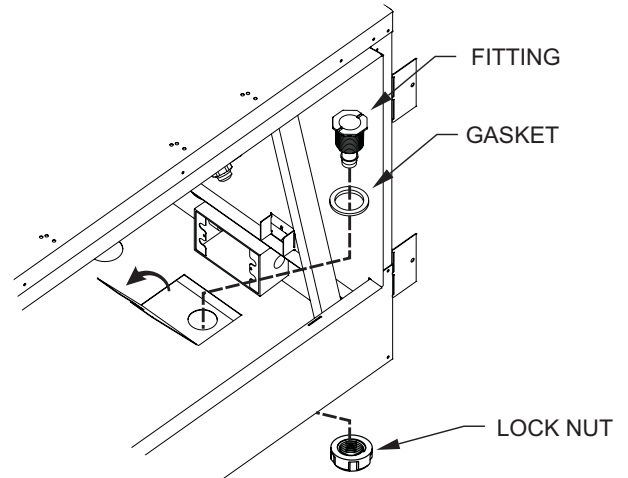

Figure 7
- Pull open the access door in the bottom of the fireplace which is above the drain tray drain hole. Install the hose fitting with gasket through the opening in the fireplace bottom and into the drain tray. Secure hand-tight with the supplied locking-nut from underneath the fireplace. See Figure 7.